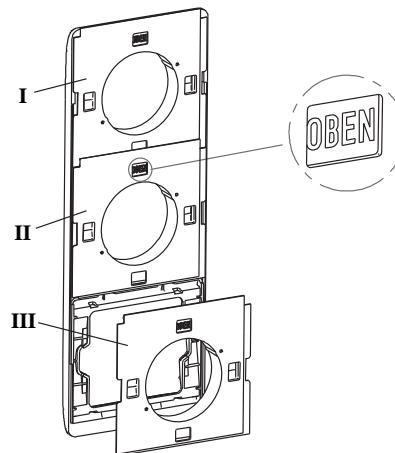

Figure 3
- i** Note installation sequence for vertical combinations: Insert seals starting from the top into the frame (Figure 3).
- Fit frame (6) with seal.